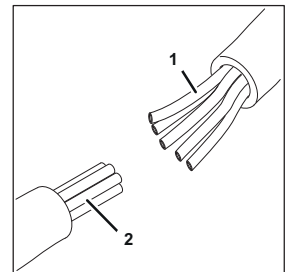

Fig. 7
7. Connect all tubes (Fig. 7/1) to the python (Fig. 7/2). Observe the labels on each individual tube as you connect the tubes.